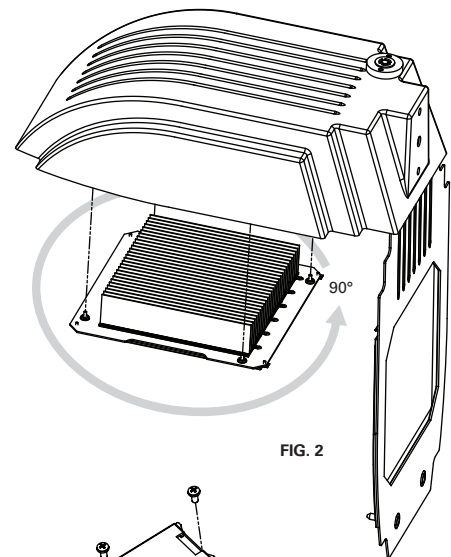

FIG. 2
1. The Vision Site Medium LED fixture is offered with some optics that has directional distributions. For aiming purposes, the LED module allow for rotatable optics **FIG. 2**.
2. To rotate the optics, first remove the LED window frame by unscrewing four (4) #8-32 Philip screws.